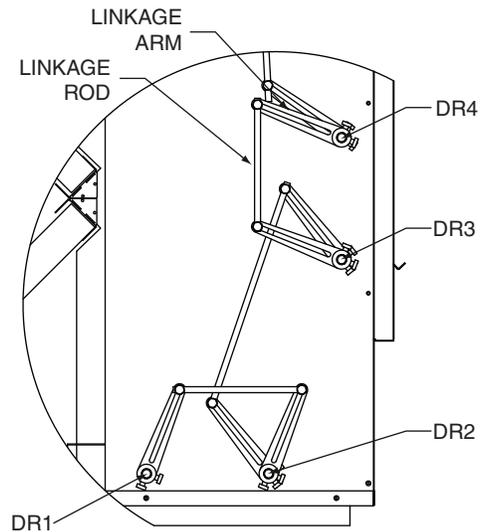

Fig. 51 — Area A Detailed View
1. Align actuator so that the actuator linkage arm will have enough clearance for full range of motion. Refer to Fig. 49-52. Align center line of the actuator as close to the centerline of DR4 as possible. See Fig. 51 and 52. Use at least 4 self-drilling screws to mount directly to top of unit.
2. Place linkage arm assembly (linkage arm and swivel nut arm) onto DR4 as shown in Fig. 51 and 52. Do not tighten to DR4 as adjustments need to be made.
3. Place linkage rod between actuator arm and linkage arm on DR4. See Fig. 51. Linkage rod may need to be cut to length. Ensure actuator arm and linkage arm are parallel.